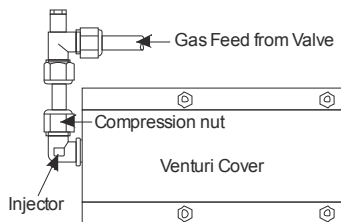

Figure 72
1. Undo the compression nut on the gas feed pipe to the injector (see **Figure 72**).